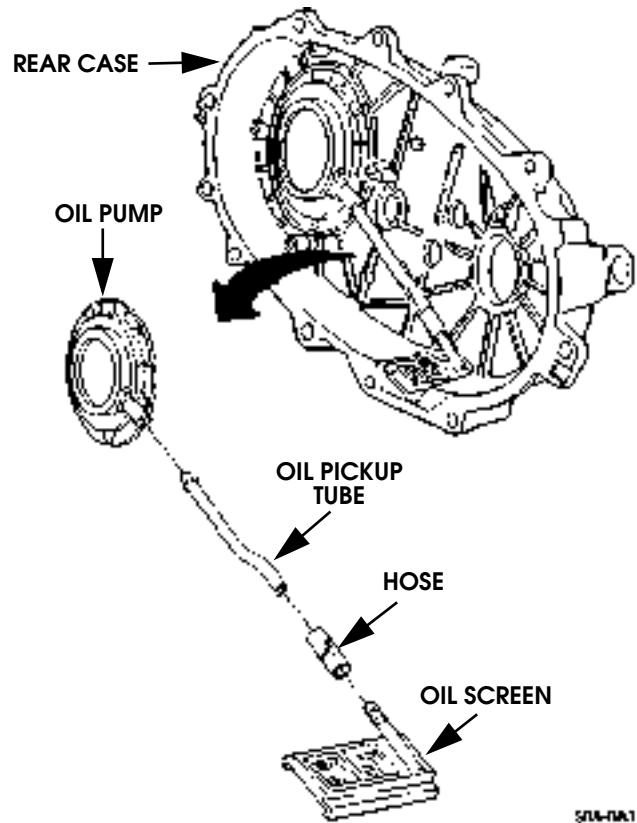

Figure 5-89: Oil Pump Assembly Removal
9. Remove oil pump, pickup tube, hose, and screen (Figure 5-89).